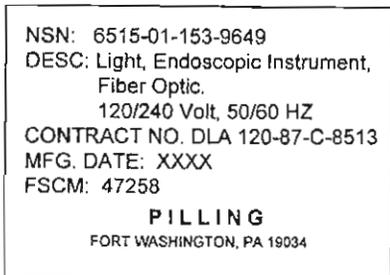

Figure 1-7. Manufacturer military data plate.
(1) The endoscopic instrument light manufacturer military data plate (located on the back of the endoscopic instrument light) is depicted in figure 1-7.